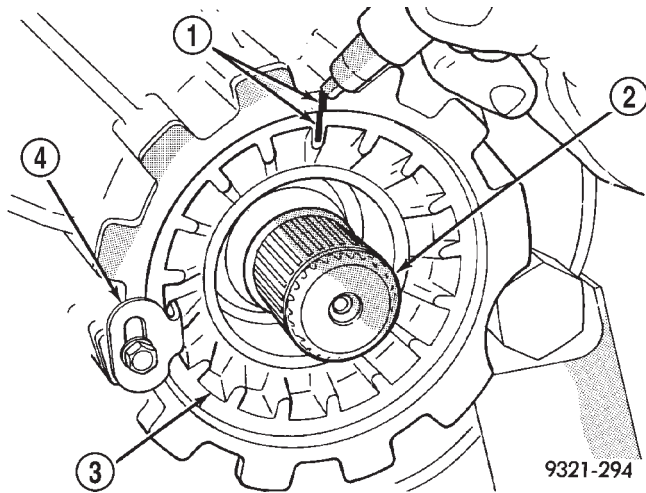

Fig. 116 Indexing Outer Adjuster
- (1) Place vehicle in neutral and lift vehicle on hoist.
- (2) Remove short driveshaft.
- (3) Index the outer adjuster (Fig. 116).